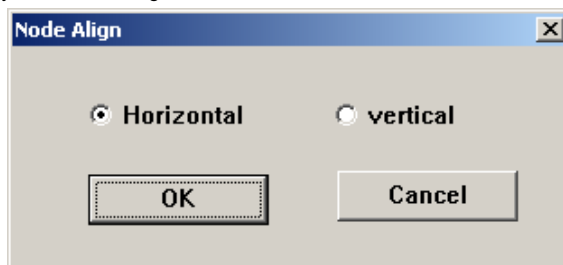

Fig. 8-9
4. A dialog in Fig. 8-9 is shown.